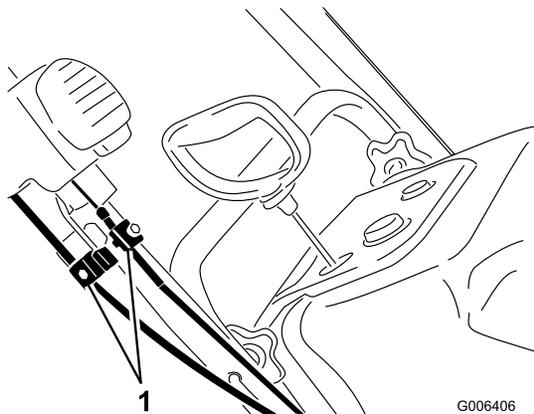

Figure 39
1. Loosen the 2 Quick Shoot control-cable clamps (Figure 39).